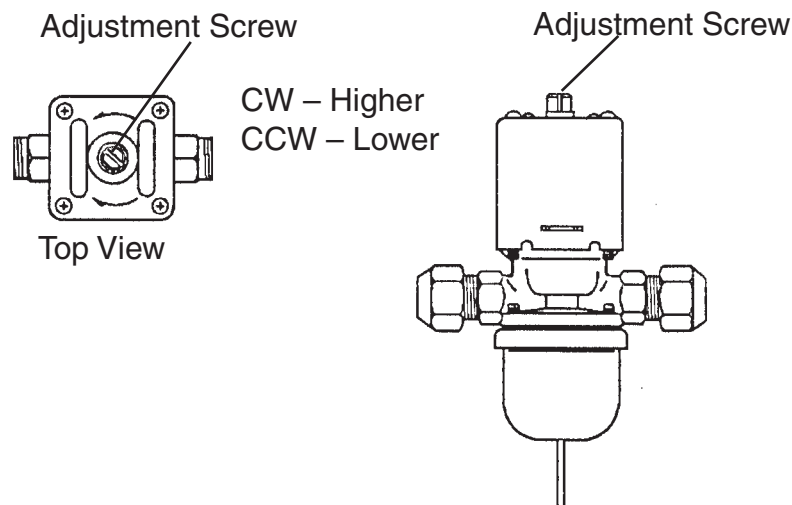

Fig. 2
- 2) Rotate the adjustment screw by using a flat blade screwdriver, so that the pressure gauge shows 270 PSIG or the thermometer reads 104 to 115°F, 5 minutes after a freeze cycle or icemaking process starts. When the pressure exceeds 270 PSIG, or the condenser drain temperature exceeds 115°F, rotate the adjustment screw counterclockwise. See Fig. 2.